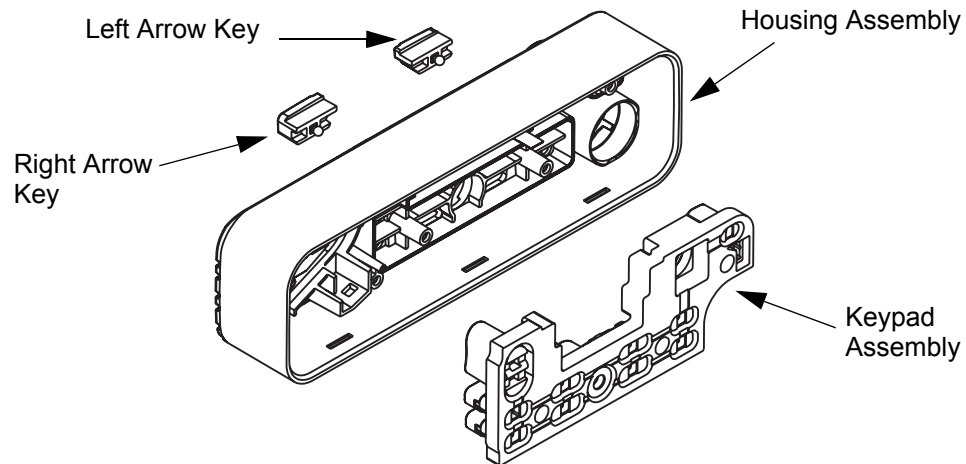

Figure 5-22 Keypad Assembly
- b. Assemble the keypad in the control head housing making sure to align the keys with the openings in the control head housing. Refer to Figure 5-22.